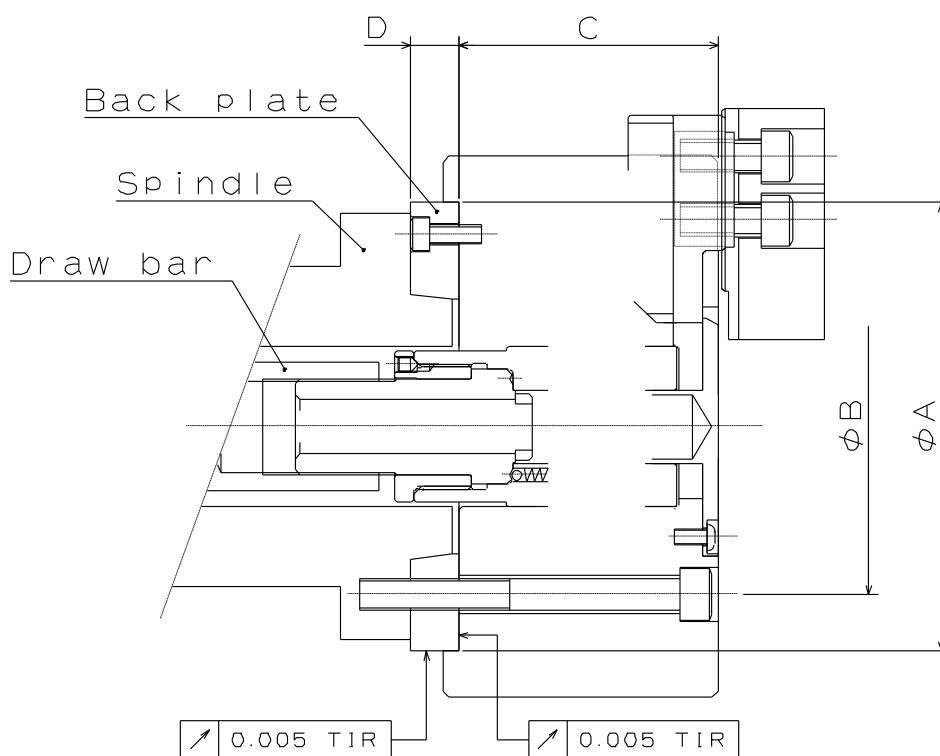

Fig.16
- Fig.16 shows the case of the JIS short taper standard.